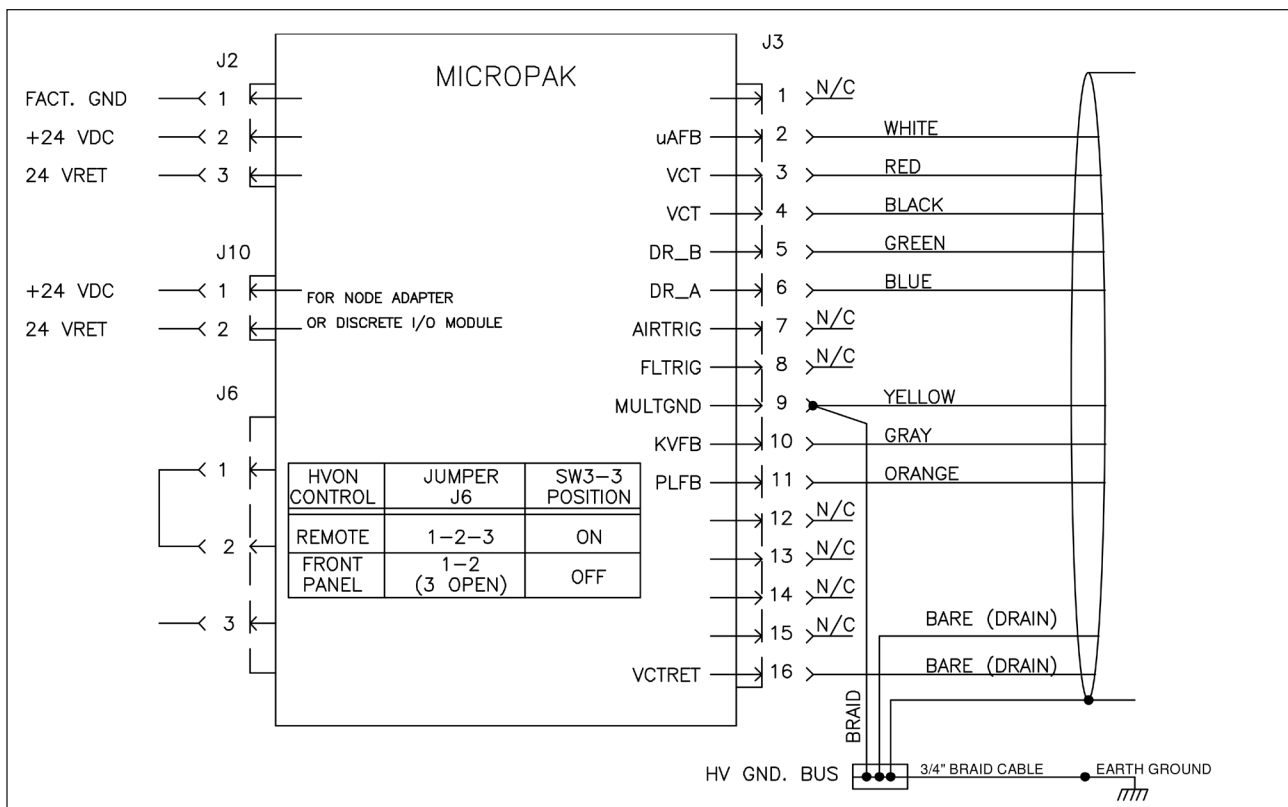

Figure 1: MicroPak Controller w/ HP404, RP404 & HP505 Cascade
➤ The 24VRET **must** be connected to Factory Ground at the +24 VDC power supply (see Figures 1 and 2).
When a Node Adapter or Discrete I/O Module is used, power must be supplied to it via J10. Connect +24 VDC to J10-1, and 24 VRET to J10-2 (see Figures 1 and 2).
Make connections to J3 per Figure 1. Use the appropriate cable assemblies for HP404 / HP505 (see MicroPak parts list at back of this manual). Use only the A12971 cable assembly for RP404.
1. The Power Supply must be referenced to true earth ground at only one point. (Refer to Figures 1, 2, and 3 for Grounding Connections.)